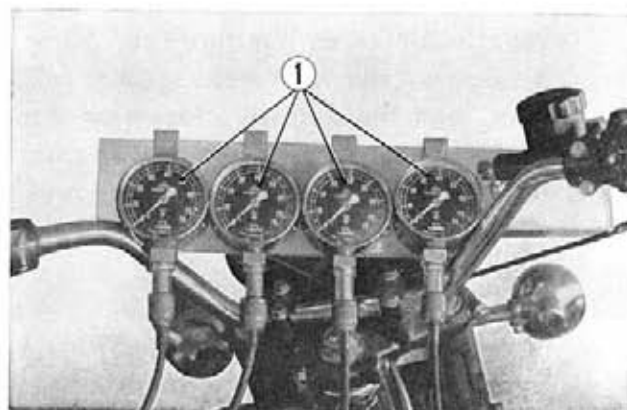

Fig. 6-18 ① Vacuum gauge
c. The standard vacuum pressure reading should be 20~22cmHG. in all four gauges. If any of these gauges indicates pressure higher or lower than the standard range adjust it with the throttle stop screw. Turning the stop screw clockwise will reduce the pressure and turning it counter-clockwise will bring the pressure higher. (Fig. 6-18)